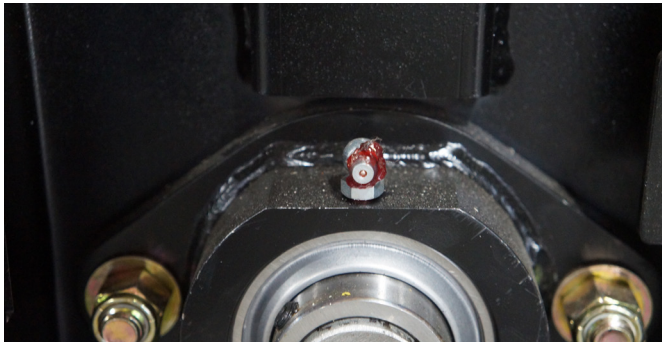

Figure 11
Grease bearings [Figure 11, Figure 12, Figure 13].
- Gauge wheels [Figure 11, Figure 14].